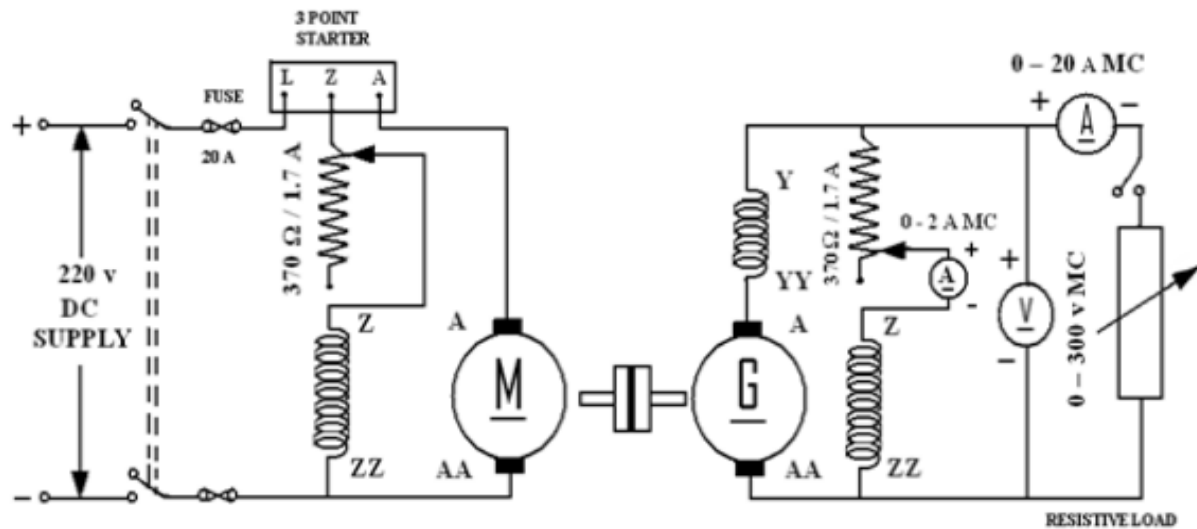

Figure 4 - LOAD TEST ON DC COMPOUND GENERATOR
1. Calculate the different armature currents (i.e i_a equal i_l plus i_f) for compound generator under various loads in figure 4